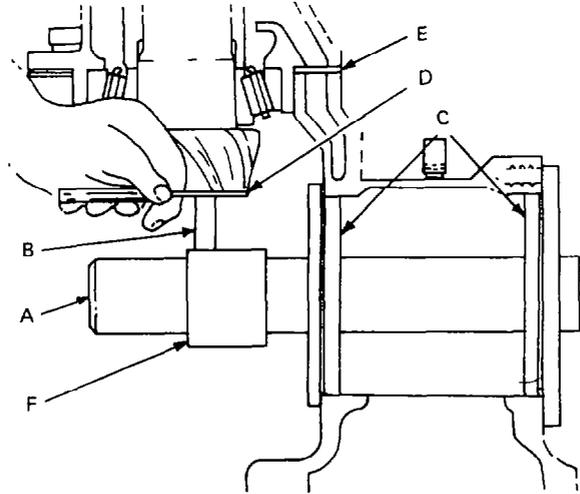

Fig. 311 — Verifying Shim Pack Thickness
- l. Before installing the depth gauge, make certain all contacting surfaces are free of dirt and burrs then set plugs (C) in the carrier housing. Install the gauge pin (B) on the body assembly (F), then slide the pin and body assembly onto the tube (A) until they are opposite the face of the bevel pinion.
- m. Insert a feeler gauge (D) between the bevel pinion and the gauge pin to determine the proper shim pack (E) (see fig. 311).